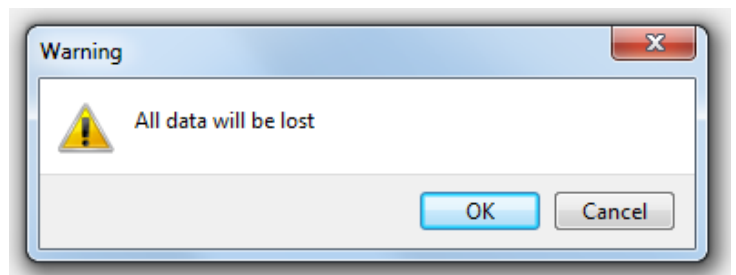

Fig. 32 Data loss warning.
- Select: **OK** to start uploading of the update (Fig. 32).